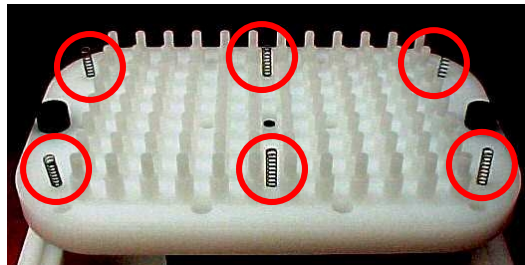

Figure 12: Placement of six springs shown circled.
10. Reassemble the unit. Place the needle plate on the handle assembly. Be sure to line the springs up in the mating holes. (See spring placement in Figure 12 below.) Fasten the needle plate to the base unit with the two screws you removed in step 2.